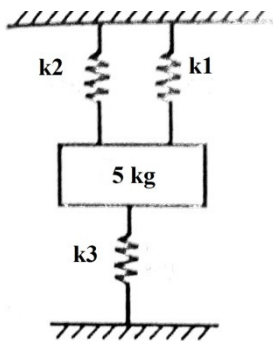

Figure 5.1
2. Find the natural frequency of the system shown in Figure 5.1 below with $k_1=2000\text{N/m}$, $k_2=2500\text{N/m}$, $k_3 = 3000\text{N/m}$, $m= 5\text{kg}$